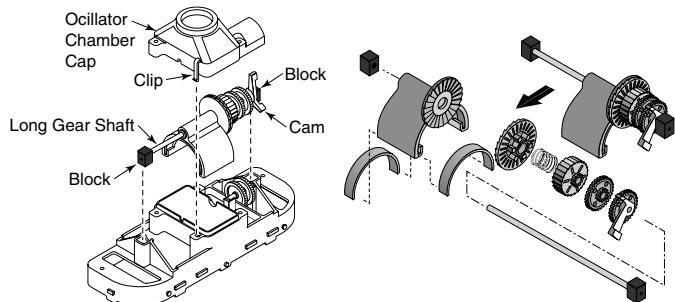
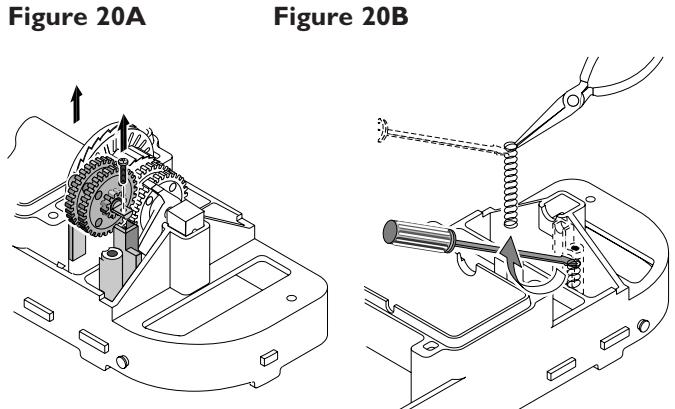

Figure 20A
Figure 20B
3. Turn lower body assembly right side up. Unsnap the 2 clips on the oscillator chamber cap (Figure 20A); lift it off.
4. Pull the long gear shaft straight up (Figure 20A) by the blocks on the ends of the shaft. Hold the seals in the oscillator and the blocks on the shaft. The cam may interfere with the shaft mounting post; if so, turn it slightly on the shaft until it clears the post. The shaft assembly can now be disassembled (Figure 20B).
5. Slide the long gear shaft out of the oscillator (with gears, complete); make sure that you don't lose the seals out of the oscillator which may fall out at this point (Figure 20B).